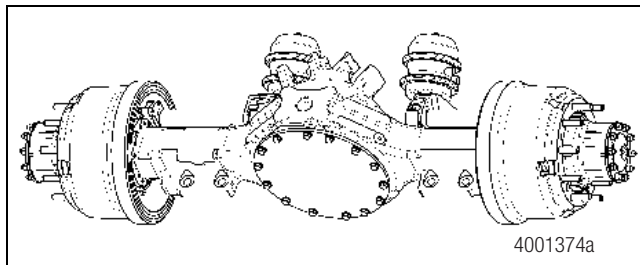

Figure 2.10
- A hubcap is used to keep lubricant in the wheel end instead of an axle shaft. Figure 2.10.